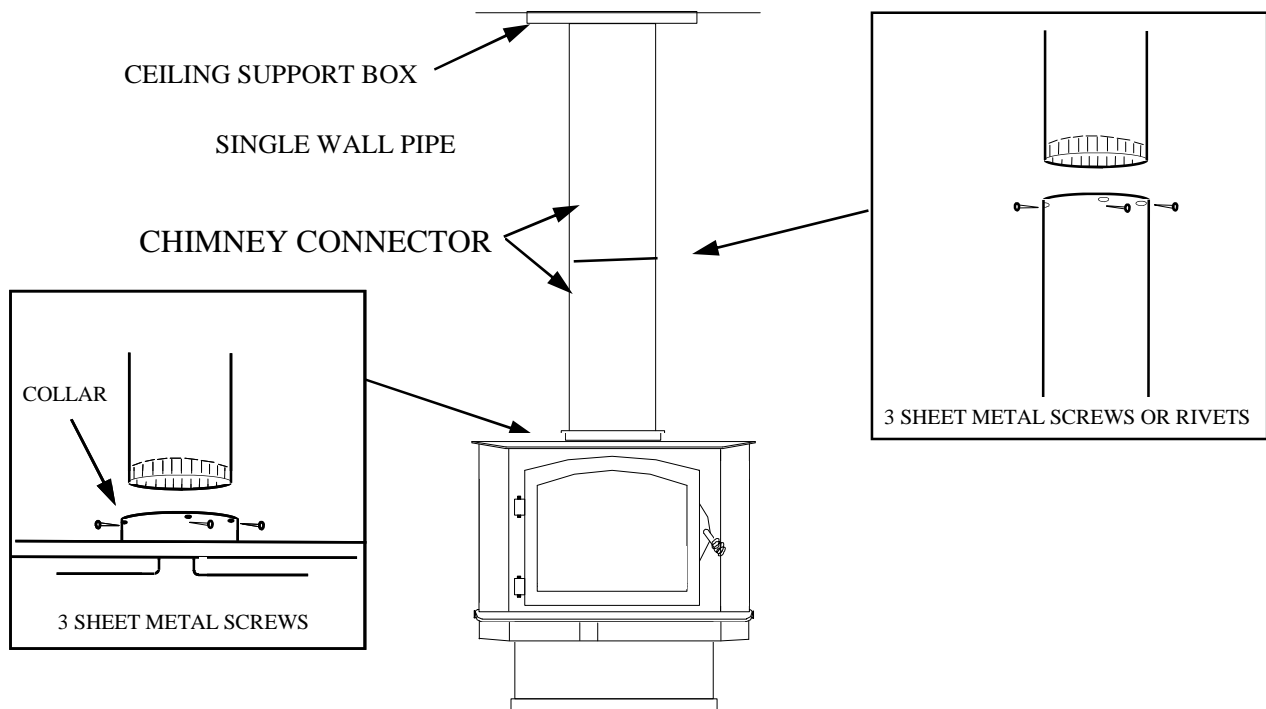

Figure 13
5. Using single wall chimney connector, connect heater to the chimney by following manufacturer's installation instructions exactly. (See Figure 13).